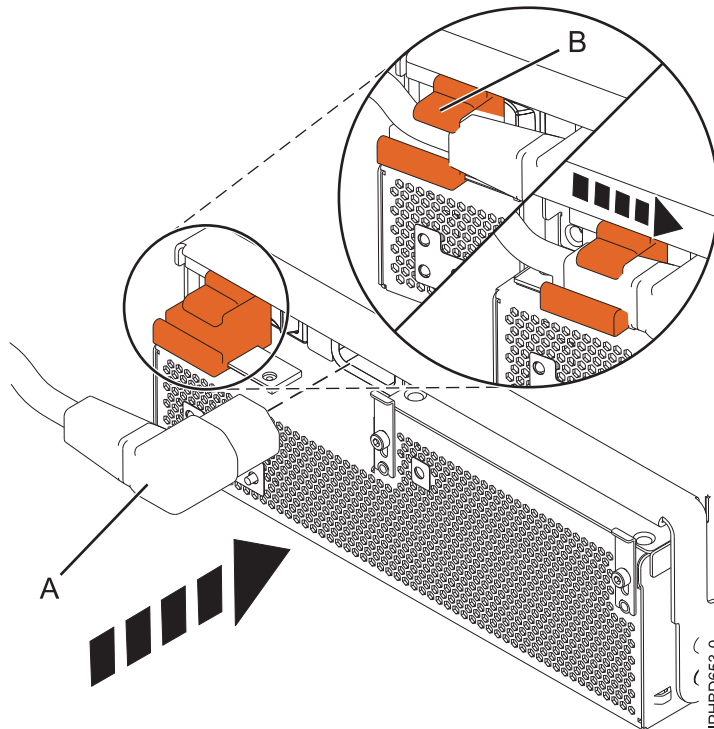

Figure 63. Connecting the power cable to the front of an expansion unit
7. Close the locking handle (A) until the power supply locks into position.
8. Reconnect the power cable **(A)** to the front of the power supply, and then slide the cable retention bracket **(B)** to the closed position to secure the cable as shown in Figure 63. By moving the bracket to the closed position, you turn on the power supply.